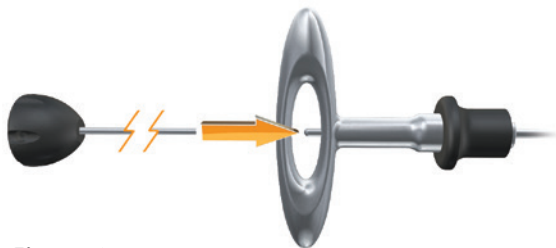

Figure 15
9. During extraction, slide the Obturator (71674078) into the T-handle in order to maintain guide rod position within the canal (Figure 15).